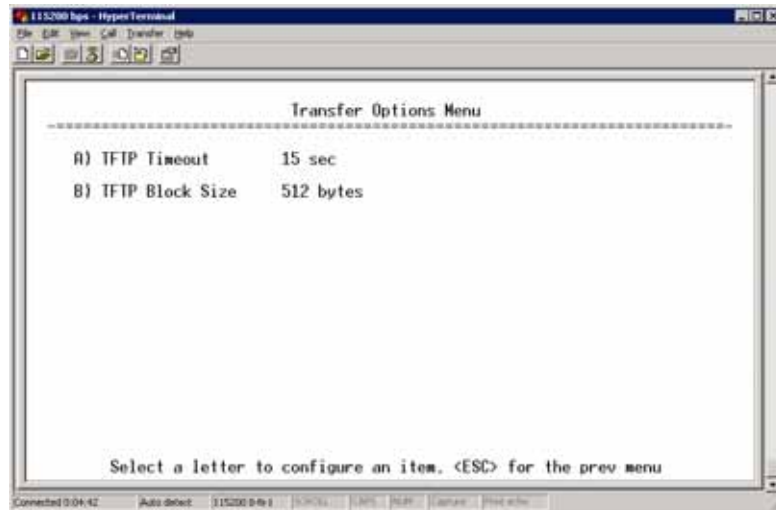

Figure 3-69. Transfer Options Menu
- **Transfer Options**—A menu for configuring the TFTP transfer. (See Figure 3-69 on Page 101.)